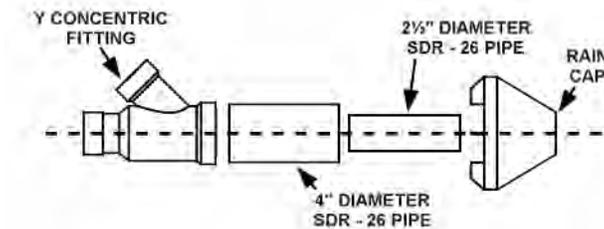

Figure 30. Concentric Termination Components
A. Cement the Y concentric fitting to larger diameter kit pipe. See *Figure 30* (page 31).
B. Cement the rain cap to the smaller diameter kit pipe. See *Figure 30* (page 31).